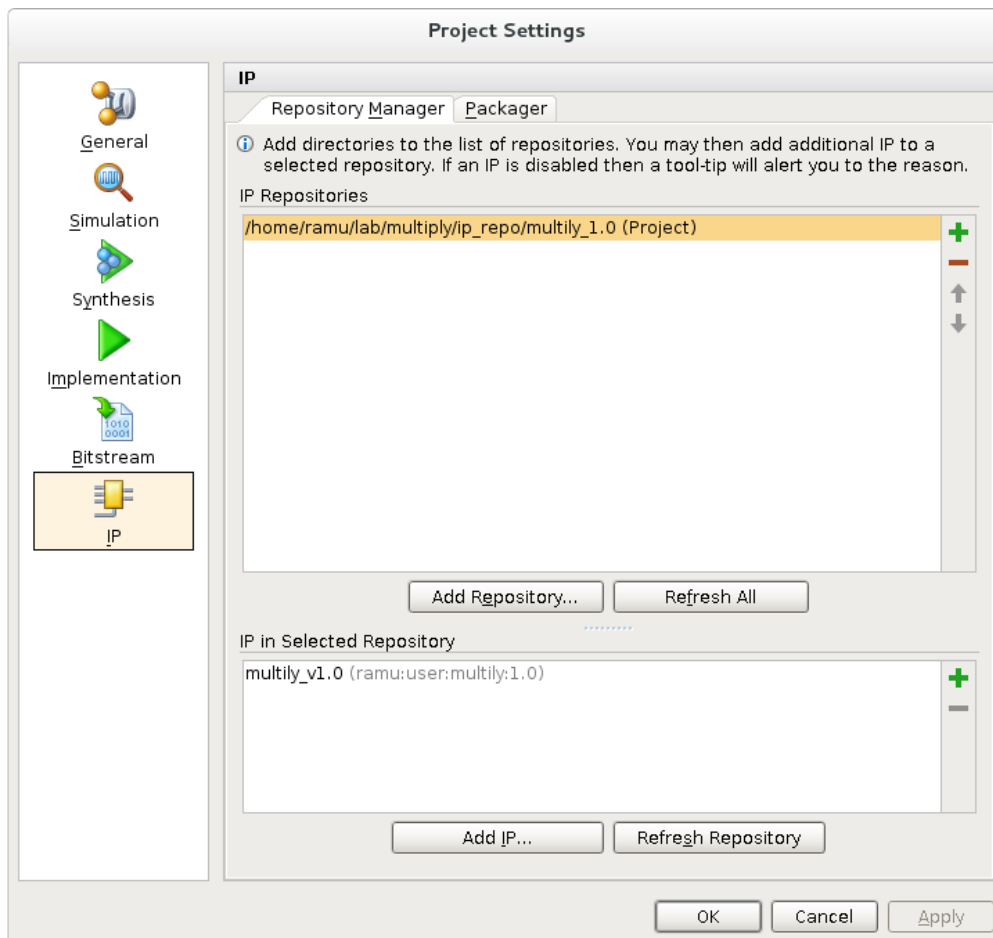

Figure 2: Add IP repository
- Next create block design, add 'ZYNQ7 Processing System' (PS) IP, import 'ZYBO_zynq_def.xml' file' as shown in the previous lab.
- Click on 'Project Settings' under project Manager tab. Click on 'IP' in the project setting window. Click on the green '+' sign and add the 'ip_repo' directory as shown in Figure 2. Click apply to add multiply IP to the current project IP catalog. Now you can add multiply IP to the base system.